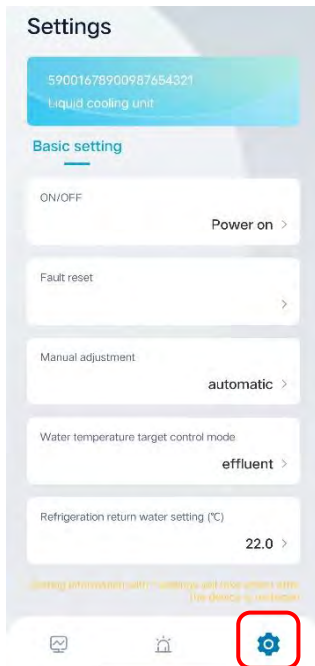

Figure5-18 Setting info page
- Tap the bottom icon , you can view the current setting status of the liquid cooling unit, such as ON/OFF, cooling return water, cooling out water and other parameters, as shown in Figure5-18.